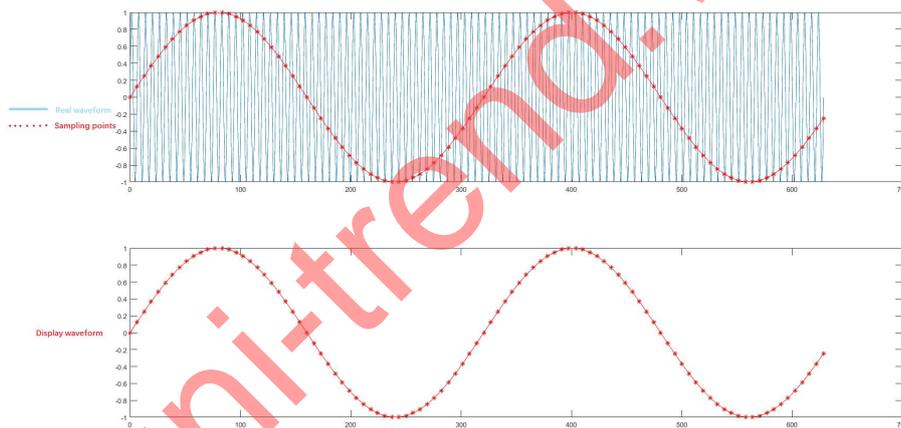

Figure 10-2
- ② Wave Mixing: When the sampling rate is 2 times lower than the actual signal frequency (Nyquist frequency), the frequency of the reconstructed signal will be less than the actual signal frequency. As shown in Figure 10-2.